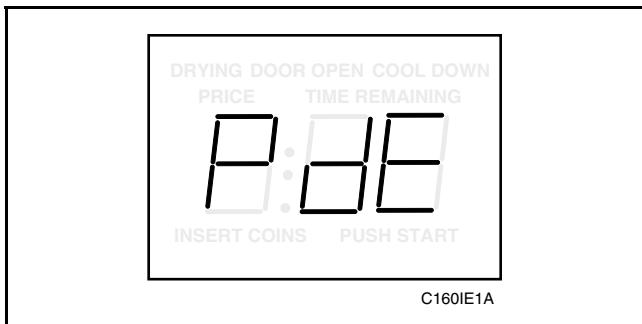

Figure 50
- Press the LOW TEMP (+) pad or the NO HEAT (-) pad to scroll through the programmable options until “PdE” appears in the VFD, *Figure 50*.